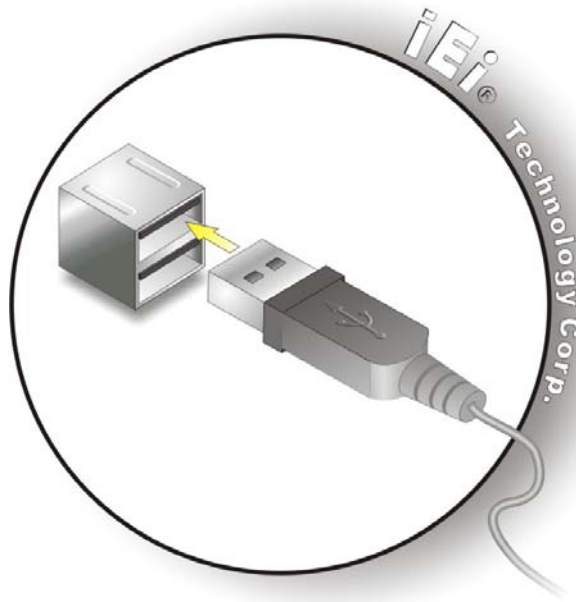

Figure 4-16: USB Connector
Step 2: Insert a USB Series "A" plug. Insert the USB Series "A" plug of a device into the USB Series "A" receptacle on the external peripheral interface. See **Figure 4-16**.